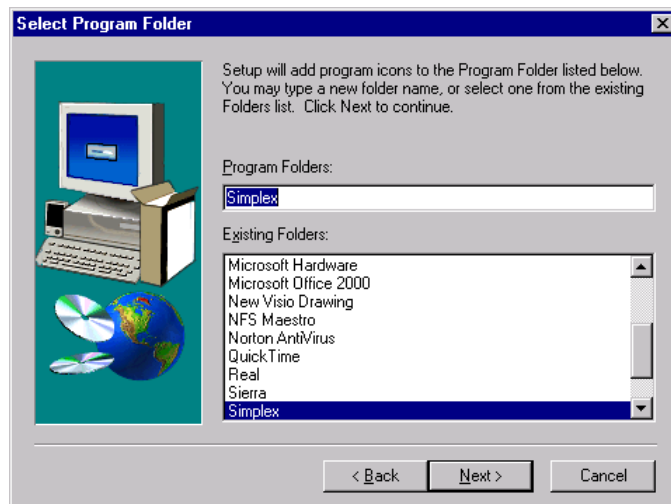

Figure 2-4. Select Folder
4. The next screen, shown in Figure 2-4, prompts you for the name of the folder in which the programmer's startup icon should be stored. It is recommended that you choose the default folder Simplex. When the correct entry is specified, click Next to continue.